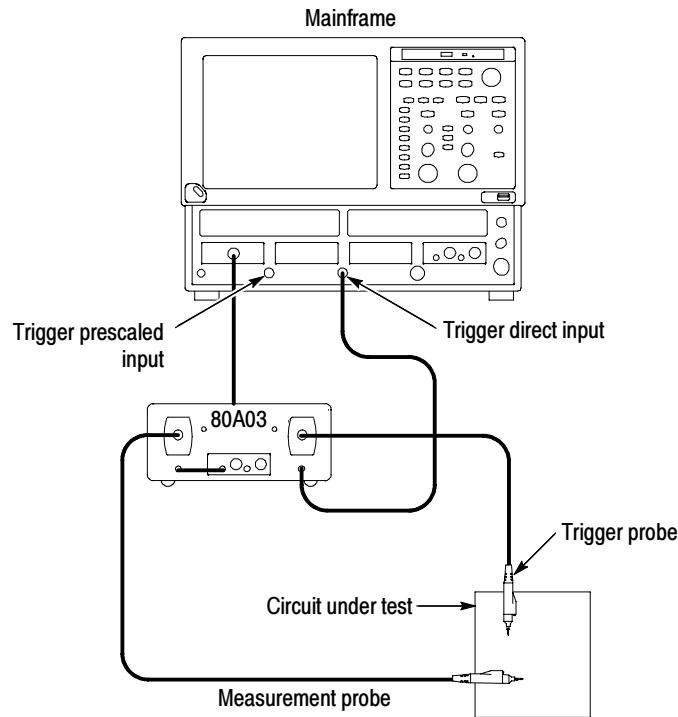

Figure 9: Setup for triggering the mainframe using the 80A03 TekConnect Probe Interface Module
2. Use a 0.5 m SMA cable to connect the CH B TekConnect Probe Interface Module to the mainframe trigger input (Trigger Direct or Trigger Prescaled). See Figure 9 on page 16.
3. Attach the TekConnect measurement probe to CH A on the TekConnect Probe Interface Module. See Figure 9.
4. Attach a TekConnect trigger probe to CH B on the TekConnect Probe Interface Module. See Figure 9.